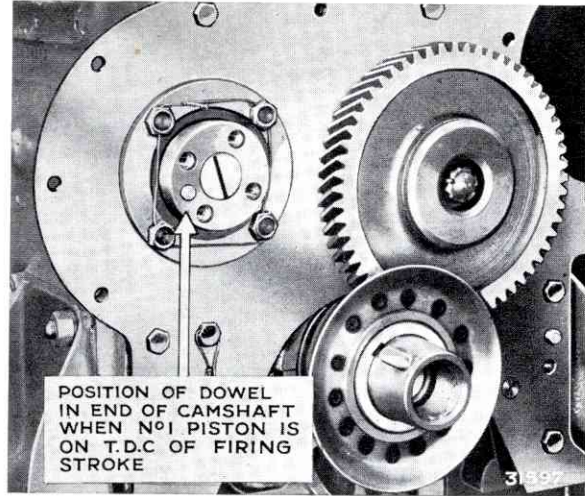

FIG. 34. GEAR LOCATING DOWEL IN CAMSHAFT END
8. Remove the four setscrews fixing the camshaft thrust washer, and withdraw the camshaft Fig. 34.
2. Fit the camshaft gear so that when the dowel hole in the gear locates on the dowel in the camshaft end, the arrows on the gear face and timing back plate are in line Fig. 34, that is, 90° to the top face of the engine block.